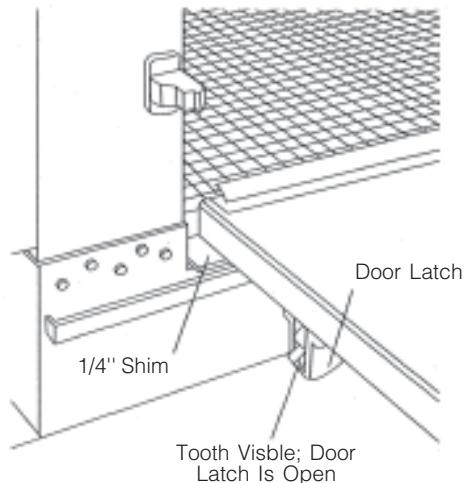

Figure 3-16. Verify Door Latch is Open
23. Locate chamber door(s) and verify door latches are open. When open, tooth is visible; when closed, solid block is visible (see Figure 3-16).
24. Position bottom of door on shims and raise door up into place (see Figure 3-16). Push door closed.